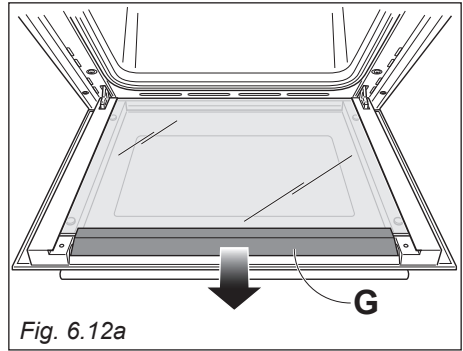

Fig. 6.12a
- Gently remove the air deflector "G" at the top of the oven door (fig. 6.12a).